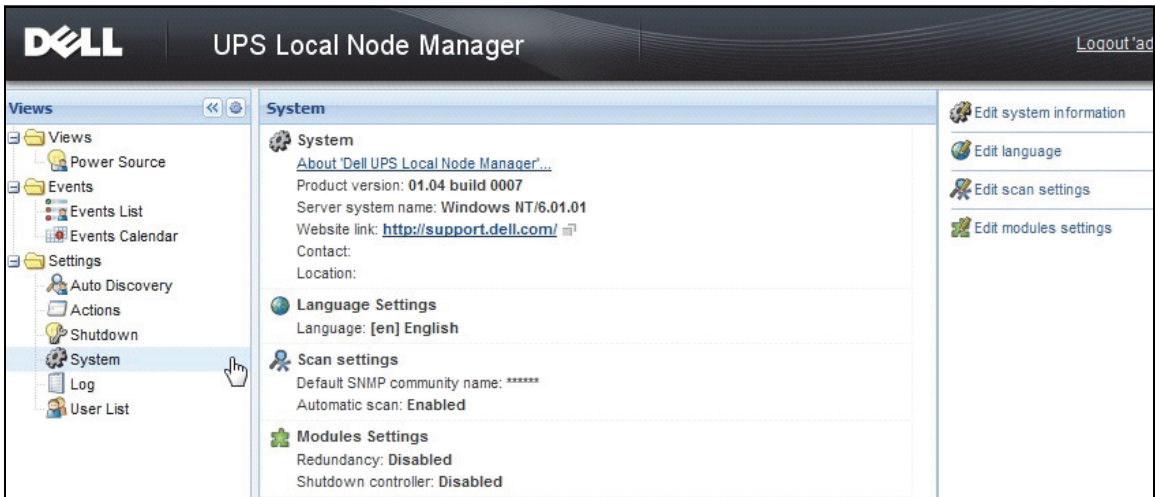

Figure 42. Module Settings Selection
- 3 On the System page, double-click **Module settings** (see Figure 42). The Edit Modules Settings dialog box is displayed.